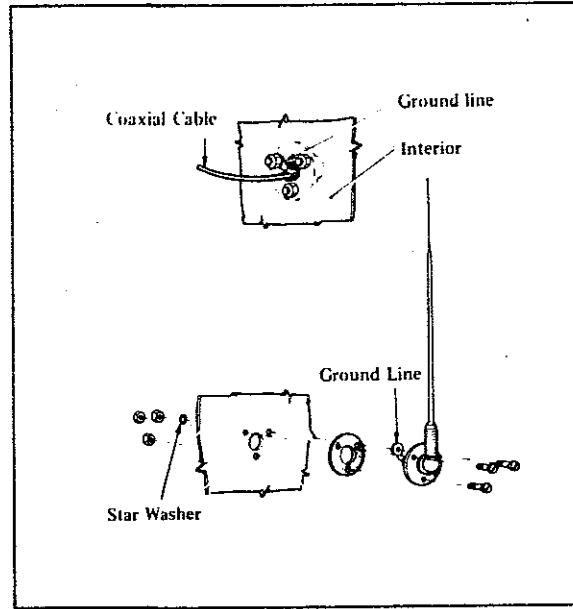

Figure 22.
1. Location of antenna should be made on road side. (See Fig. 22.)
5. Through exterior shell, drill center hole with a 1" hole saw. Using a No. 11 drill bit, drill the (3) mounting screw holes.
6. Place the (3) mounting bolts in antenna base. Install rubber gasket and fit into mounting holes.
8. Remove the (2) mounting screws from the Central Control Panel and pull out from end liner.